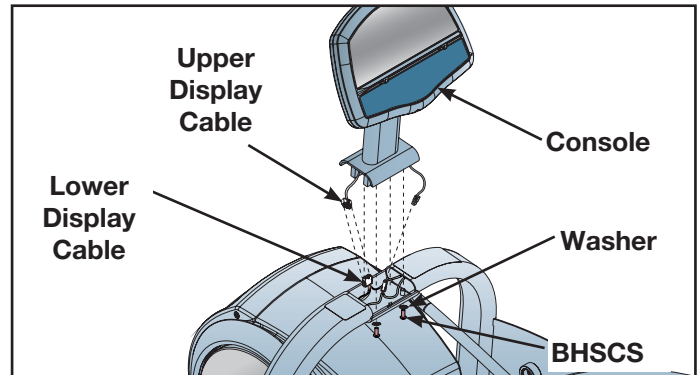

Figure 1
- A. Main Frame Assembly (1)
- B. Foot Pad (2), 11090-405
- C. CE Decal (1), CM000242
- D. Loctite 242 (2), YA000201
- B. While the unit is elevated, turn the main power switch to the off (0) position and unplug the power cord from the power outlet.
- A. Using a 7/32" Allen wrench, remove the four .375-16 x 1.50 BHCS (Button Head Cap Screw) and four washers. See Figure 1.